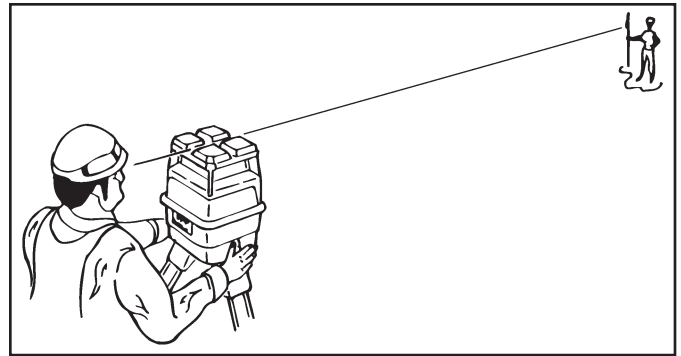

Figure 6. Sight Over Rotating Laser
5. Roughly align one of the axis to the grade stakes by sighting over the top of the Rotating Laser (Refer to Figure 6).
4. Roughly align one of the axis to the grade stakes by sighting over the top of the Rotating Laser (Refer to Figure 6).